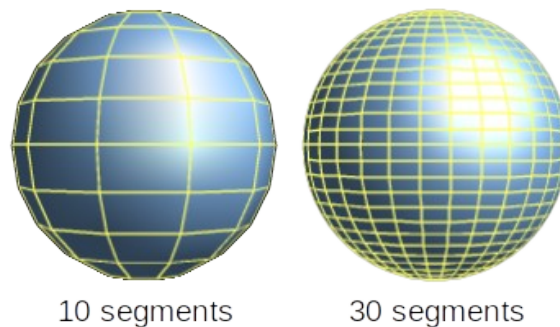

Figure 16: Example of segments
- **Segments** – changes the number of segments that Draw uses to draw a 3D rotation object. The higher the number of segments, the smoother the object surface will be. However, a high segment number may increase the time it takes to generate the 3D object on a display. Figure 16 shows the difference on a 3D sphere when the segments have been increased from 10 to 30 segments horizontally and vertically.